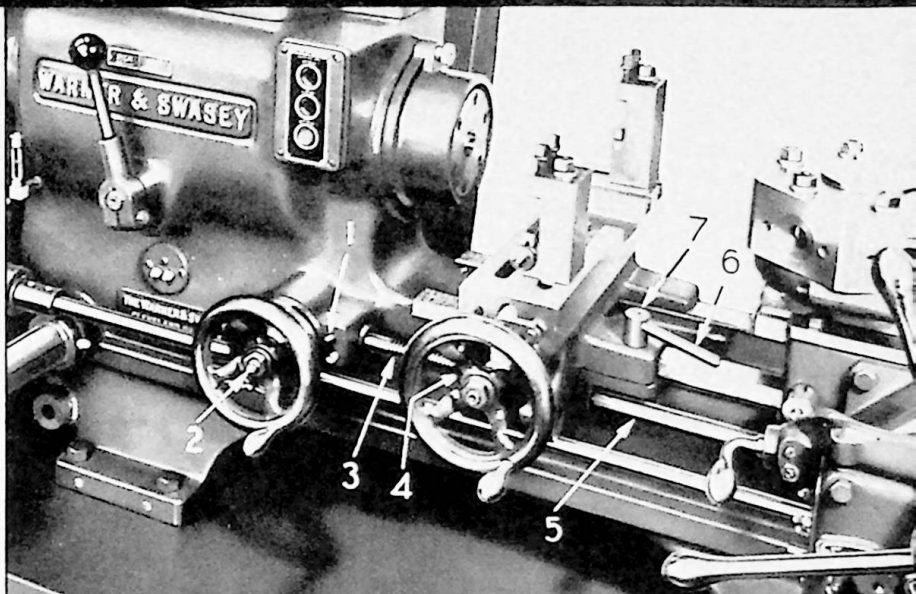

FIG. 21 Cross Slide and Hand Longitudinal Units for No. 2 Machines.
1. Unscrew protecting pipes (4) and (5), Fig. 21.
2. Run the cross slide unit to the right until the nut runs out of the hand longitudinal adjusting screw (3), Fig. 21. To do this it will be necessary to move the turret saddle to the extreme right.
3. Remove binder handle (6), Fig. 21, and unscrew binder nut (7), Fig. 21.
No. 2 Turret Lathes, Fig. 21